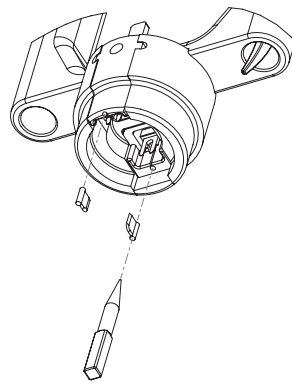

Figure 6.
4. Insert a new blade in each position. Make sure the sharp edge of the blade is toward the inside. If needed, use a metal punch to press on the pin-shaped side of the blade until it is fully seated (see Figure 6).